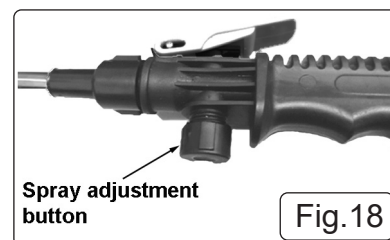

Fig.18
6.4.1. To adjust the intensity of the spraying turn the adjustment button clockwise to increase and anticlockwise to decrease (fig 18).
- 8.3.2. Locate the water absorption strainer (fig 18) and carefully remove the strainer from the water pipe (fig 19).